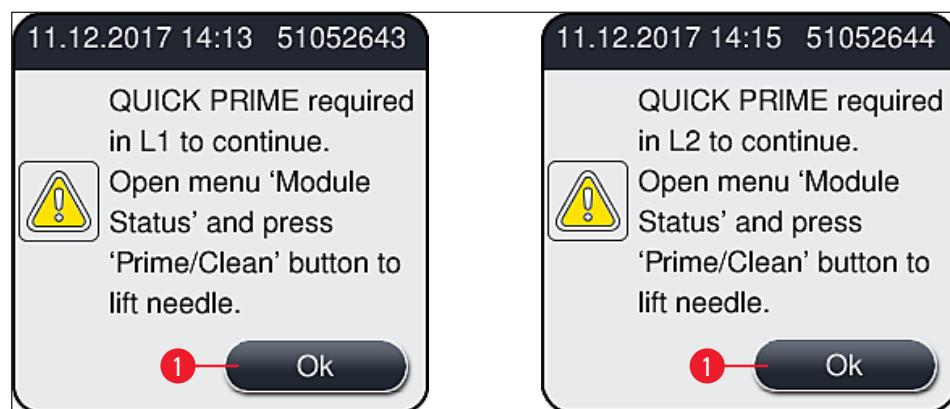

Fig. 52
- ⓘ After completing the initialization phase, the main menu (→ Fig. 20) appears on the screen and the user is informed (→ Fig. 52) that a **Quick Prime** is required for the coverslip line in use. Acknowledge the messages by pressing **Ok** (→ Fig. 52-1) and follow the instructions that follow (→ P. 122 – 7.3 Preparing the hose system for priming and cleaning).